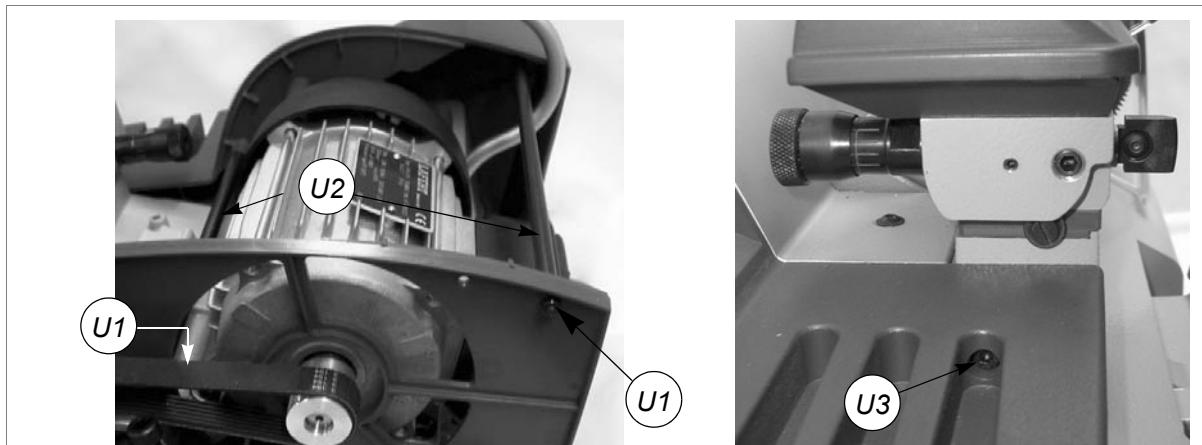

Fig. 41
- 6) Loosen the nuts (U1) on the stay bolts (U2) and remove together with their washers (fig. 41, page 29).
- 7) Loosen the stay bolts (U2) (fig.41) and remove.
- 8) Loosen the screw (U3) on the left-hand cover (fig.41).